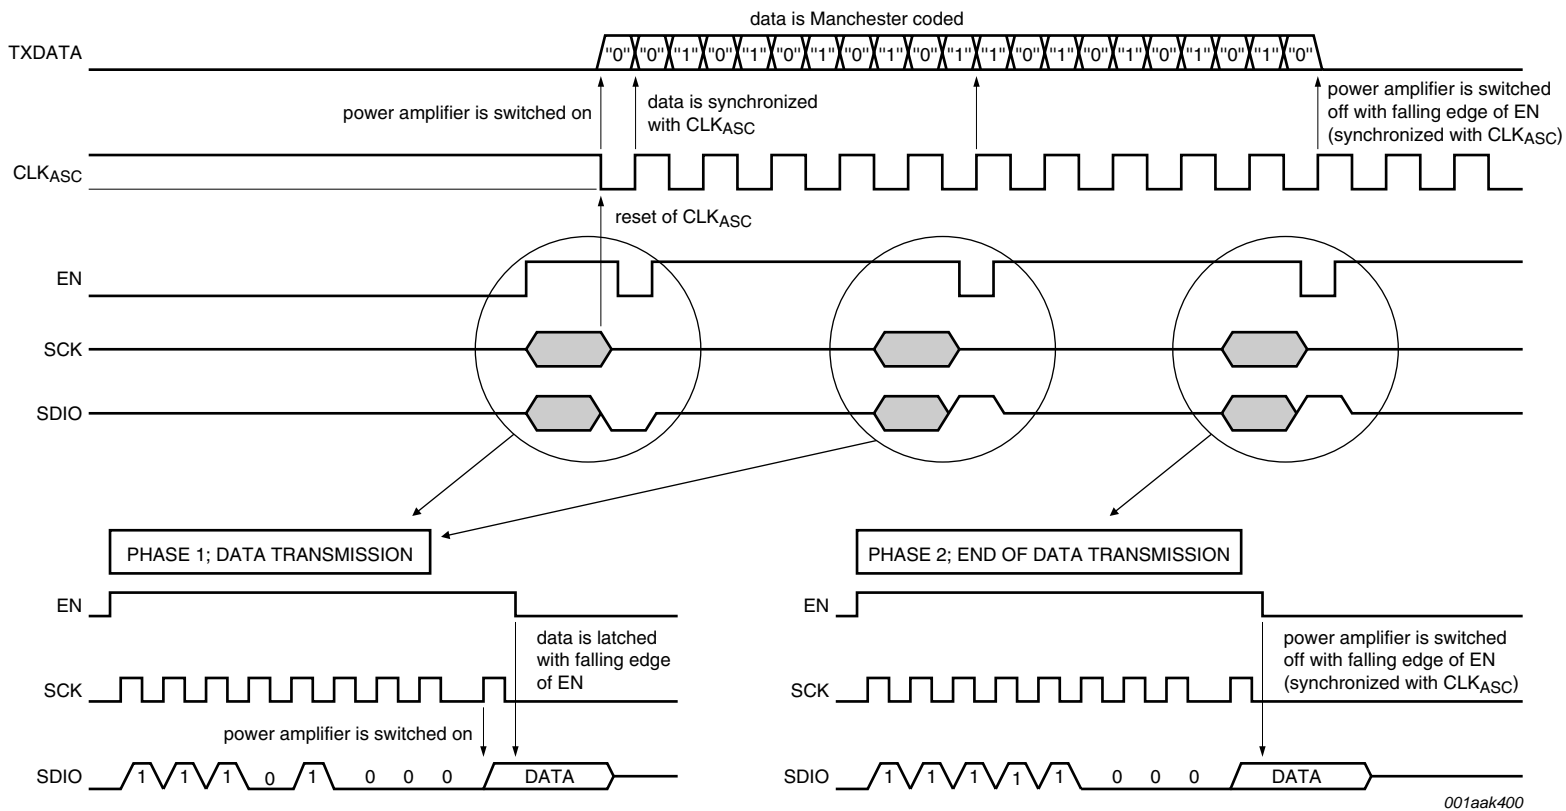

Fig 22. Transmit data example 2
**Phase 1:** Data transmission (See Figure 22)
**Phase 2:** End of data transmission (See Figure 22)